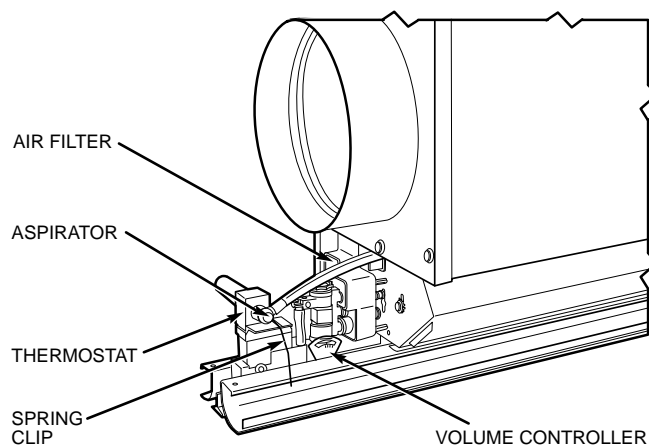

Fig. 14 — 37HS2 and 37HS4 Variable Air Volume Control Installation
- d. Snap spring clip over thermostat and onto the side diffusers to hold thermostat in place. See Fig. 14. Make sure that thermostat lever will rotate.